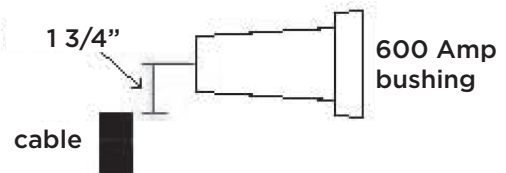

Fig. 3 - Cable Train Dimensions
- A. Cut the excess cable off square and 1-3/4" below the centerline of the bushing. (See Figure 3.)